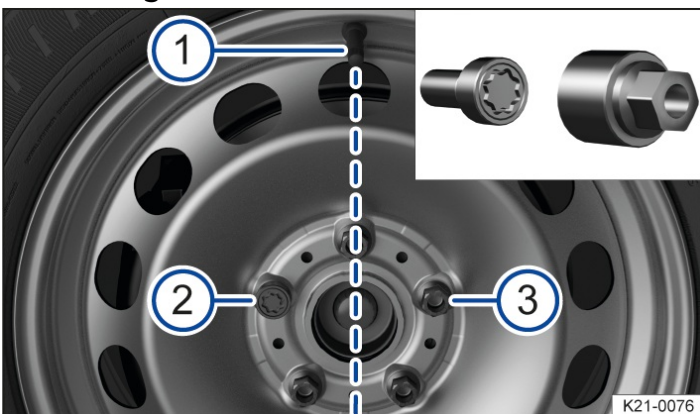

Fig. 2 Changing a tire: tire valve ① and locations of the anti-theft wheel bolt ② or ③.
On wheels with full wheel covers, the anti-theft wheel bolt must be fitted in position → *fig. 2* ② or ③, based on the position of the tire valve ①. Otherwise, it will not be possible to install the full wheel cover.